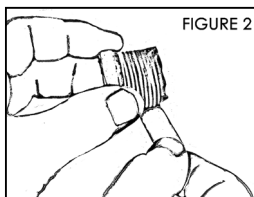

FIGURE 2
U.S. Solid Valves follow National Standards for pipe thread. In the U.S.A. we use NPT, while in Europe we use G. We recommend use of teflon tape to ensure seal of the NPT threading, as shown in Figure 2.